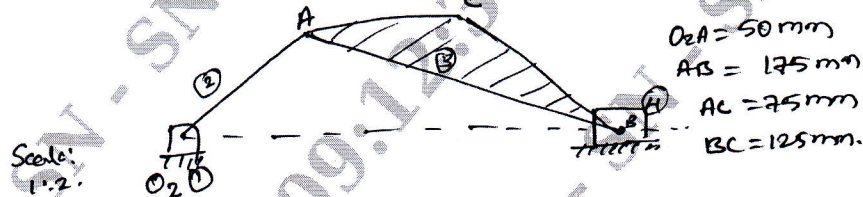

Fig.Q.3
- 3 In the mechanism shown in Fig.Q.3 crank 2 rotates at 3000rpm. Find the acceleration of the point 'C' in magnitude, direction and sense. Also find angular acceleration of link 3. (20 Marks)